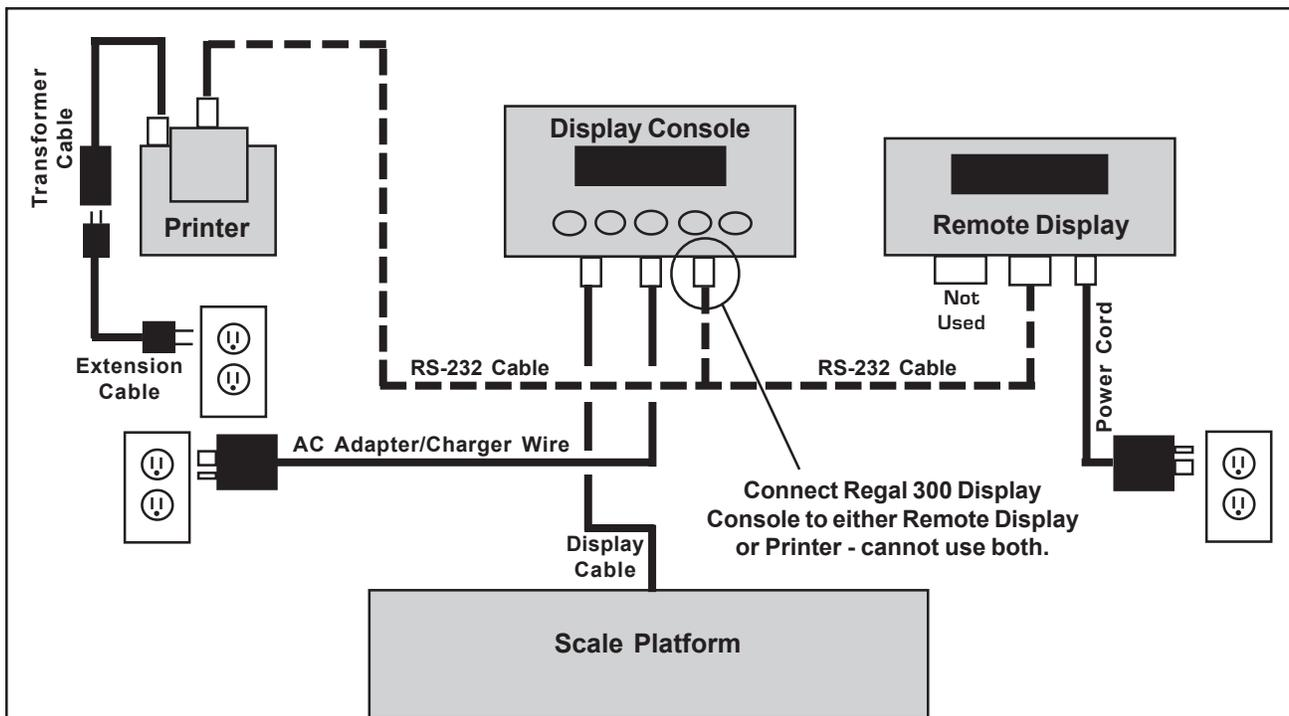

Figure 15. Regal 300 Electronic Scale - System Wiring Diagram
Provision is made in the Regal 300 Scale for the attachment of an optional remote display. **Note:** The remote display and the printer cannot be used at the same time. Refer to Figure 15 - *System Wiring Diagram*.
Provision is made in the Regal 300 Scale for the attachment of an optional printer. **Note:** The printer and the remote display cannot be used at the same time. Refer to Figure 15 - *System Wiring Diagram*.
2. Plug the connector on the RS-232 cable into the printer (Figures 15 and 16).
4. Plug the printer extension cable into the transformer cable, and then plug the transformer cable into the printer (Figures 15 and 16).